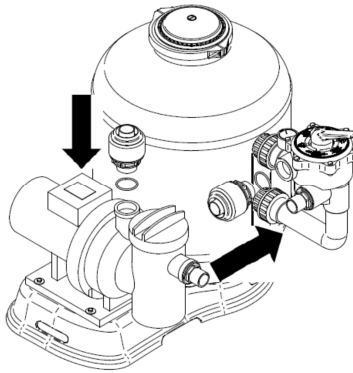

Fig. 22
1. Screw the two hosetail (Fig. 22).